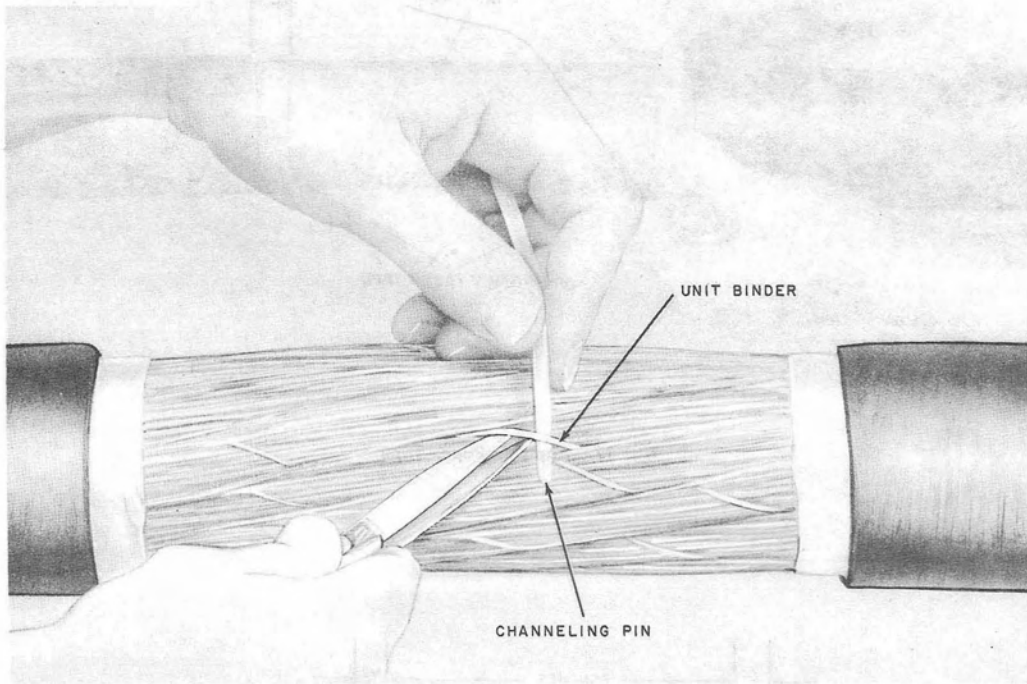

Fig. 19—Cutting and Removing Unit Binders
- (g) With the aid of an orange stick or channeling pin, cut and remove as many unit binders as possible without damaging the conductor insulation (Fig. 19).